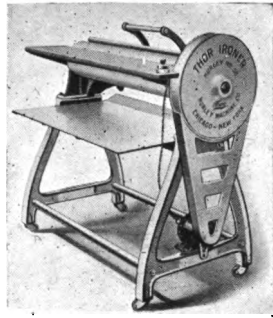

FIG. 93. Mangle.
**174. Construction of Mangles.** Mangles are made of rollers rotating in the same direction, one moving faster than the other, set close together so that they press the clothes smooth, or they consist of one roller rotating over a stationary surface called a shoe (Fig. 93).